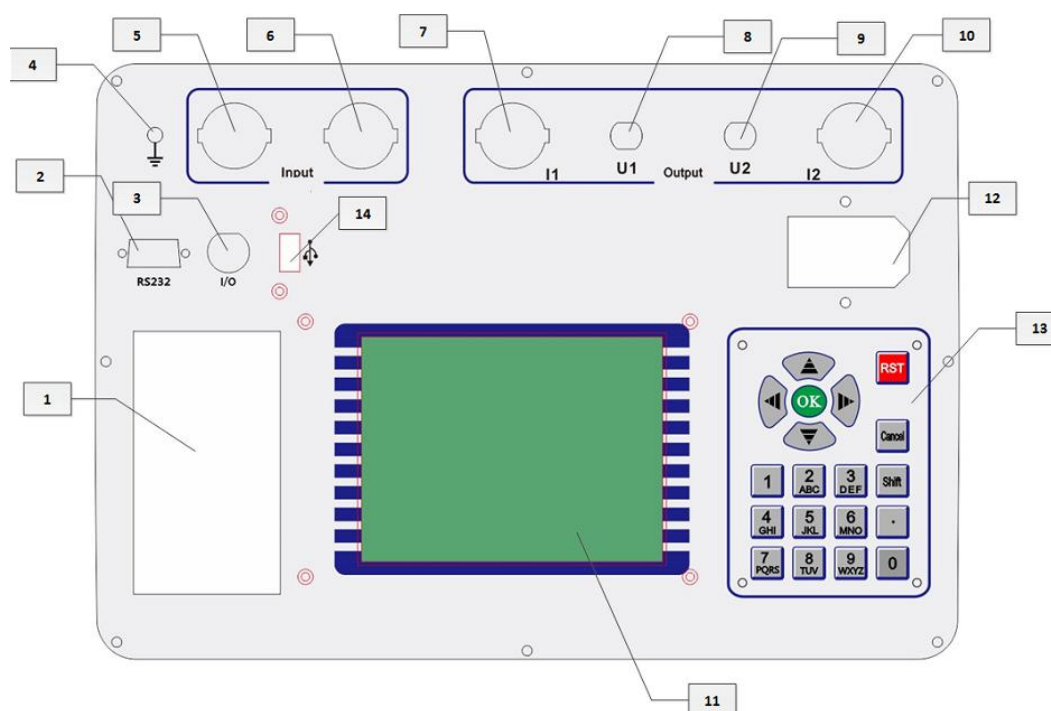
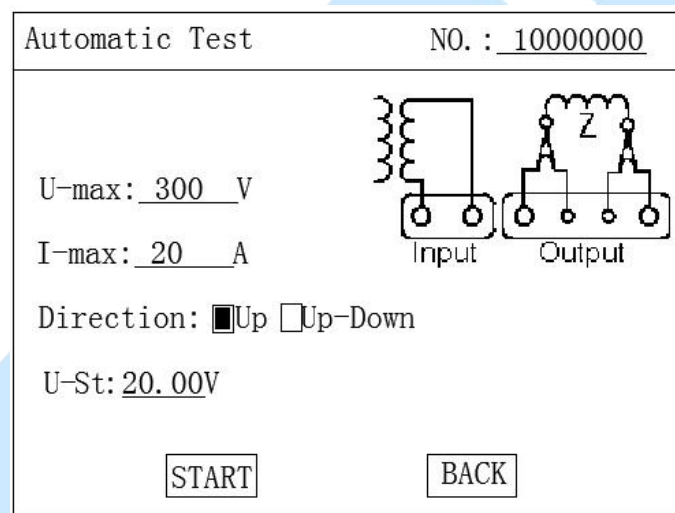
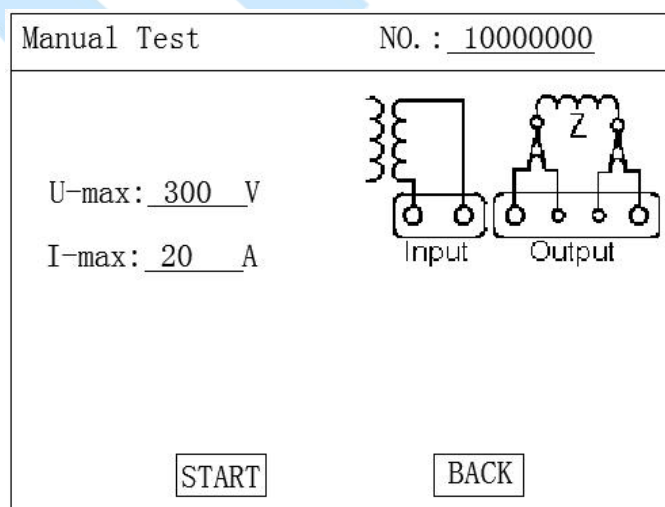

Fig 1 Panel view
Figure 3 Automatic Test Parameter Setup Interface
Figure 7 Manual Test Parameter Setup Interface
1) The working power of the instrument is switched on and the power switch is turned on. After the instrument is reset, the system will enter the interface as shown in Figure 1. Then you can press the “↑” and “↓” keys to select “Automatic” and press “OK” to enter the “Automatic Test Parameter Setup” interface as shown in Figure 3. The wiring diagram of the test is displayed on the right of the interface.
- 1) The working power of the instrument is switched on and the power switch is turned on. After the instrument is reset, the system will enter the interface as shown in Figure 1. You can press the “↑” and “↓” keys to select “Manual Test” and press “OK” to enter the “Manual Test Parameter Setup” interface as shown in Figure 7.。